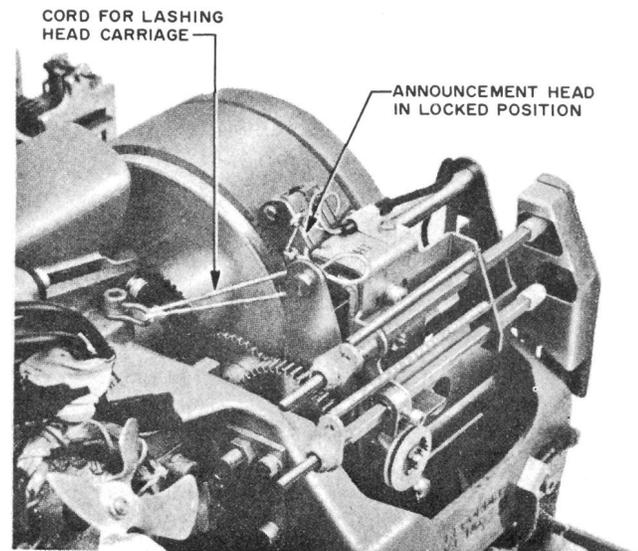

Fig. 10 - Head Carriage Lashing and Locking
1.13 Fig. 10 identifies lashing to be removed at time of installation.